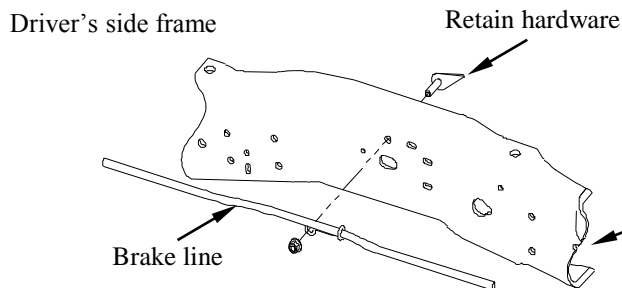
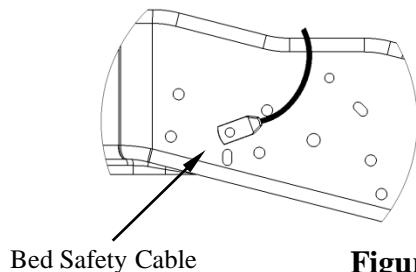

Figure 4a
Figure 4c
3. **On 1999 To 2004 Vehicles Only.** Temporarily remove the emergency brake cable hangers from the frame of the truck and keep the hardware. See Figure 4a. Also disconnect the bed safety cable and re-install in an available nearby hole once frame bracket is installed. See Figure 4c.